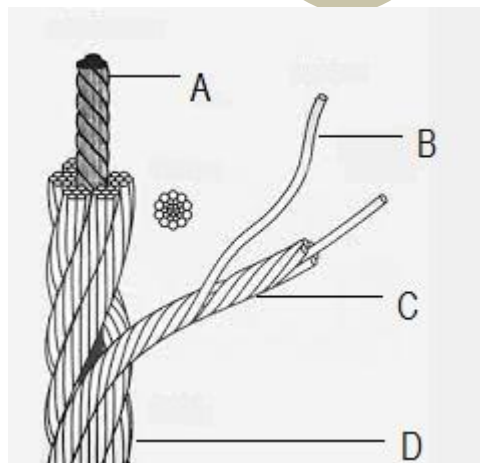

FIGURE 3
7.2 Refer to the composition of a steel rope in FIGURE 3 below and label the different parts. Write only the name of each part next to the letter (A–D) in the ANSWER BOOK.